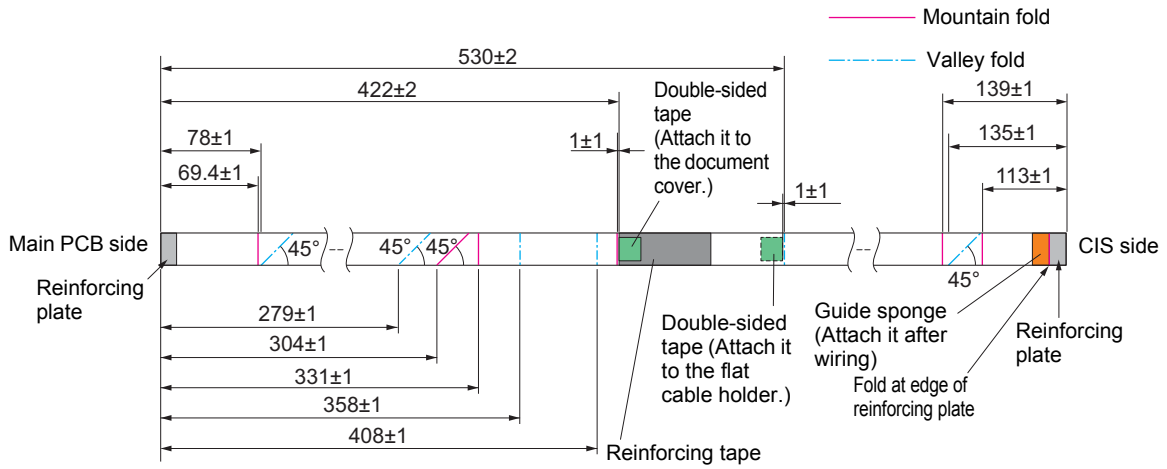
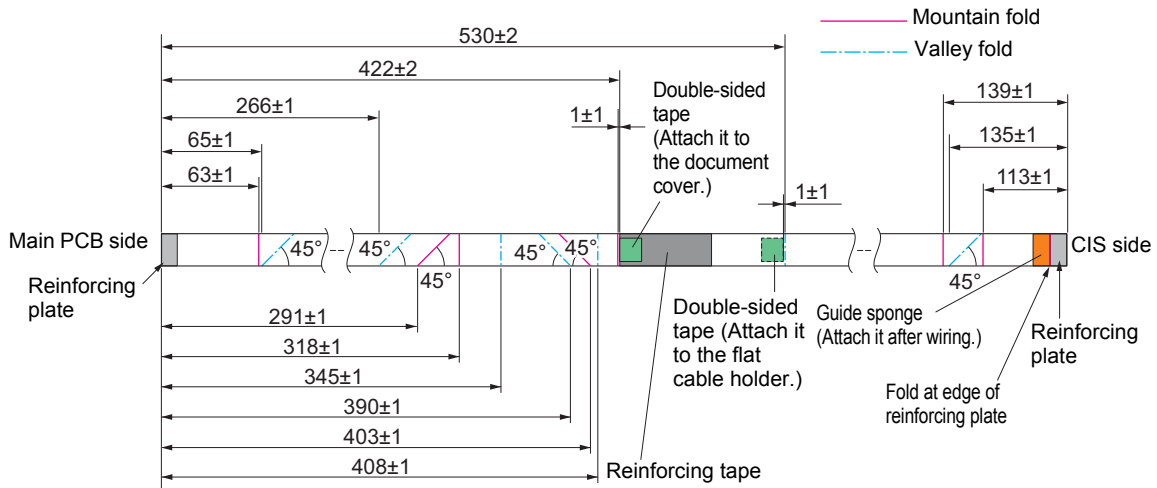
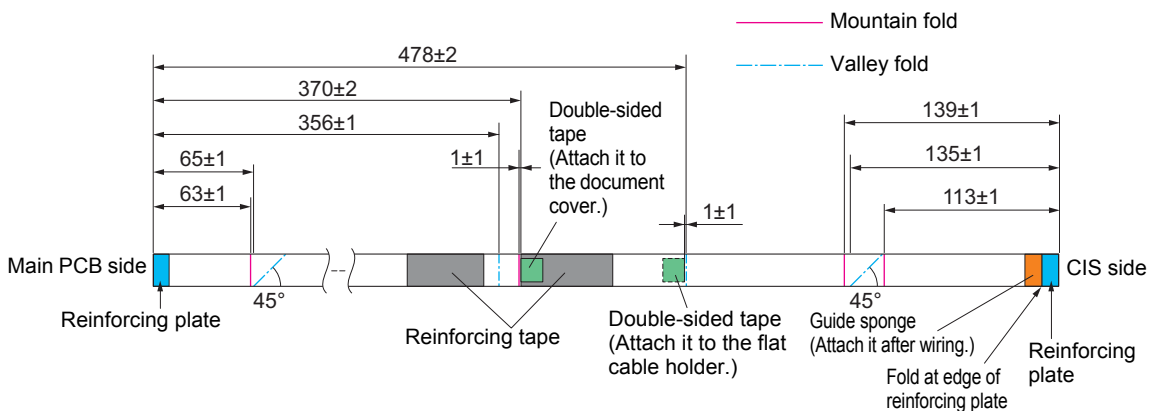

Fig. 3-46
Fig. 3-47
Fig. 3-48
- For the sticking position of the double-sided tape, refer to the folding diagram of the flat cable, Fig. 3-46, Fig. 3-47 and Fig. 3-48.